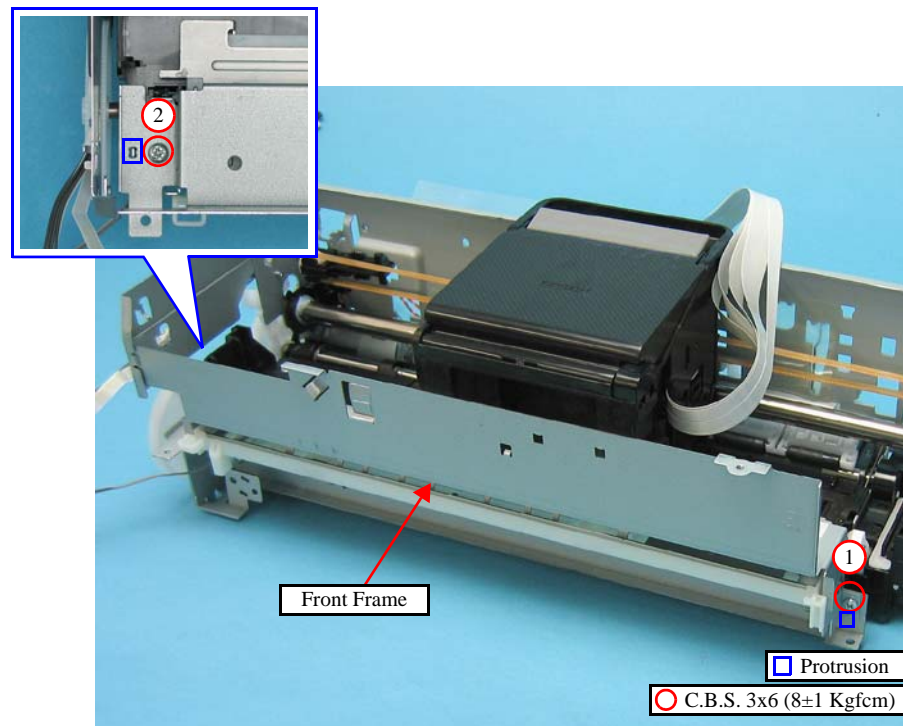

Figure 4-94. Removing the Paper Eject Frame Assy (1)
- After installing the Front Frame, confirm the engagement of the protrusions (x2), and then tighten the screws (x2) in the specified order. (See Figure 4-94.)